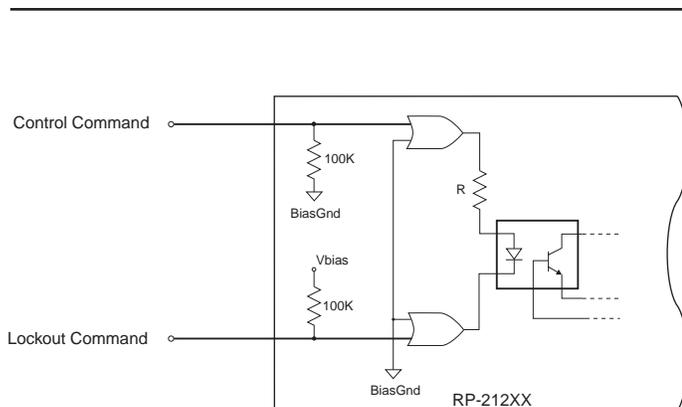

FIGURE 2. RP-212XX SERIES CONTROL/LOCKOUT FUNCTIONAL SCHEMATIC
- Control and Lockout operate the input optocoupler. They may be interchanged which will invert their function. See FIGURE 2 for a schematic of this input structure.